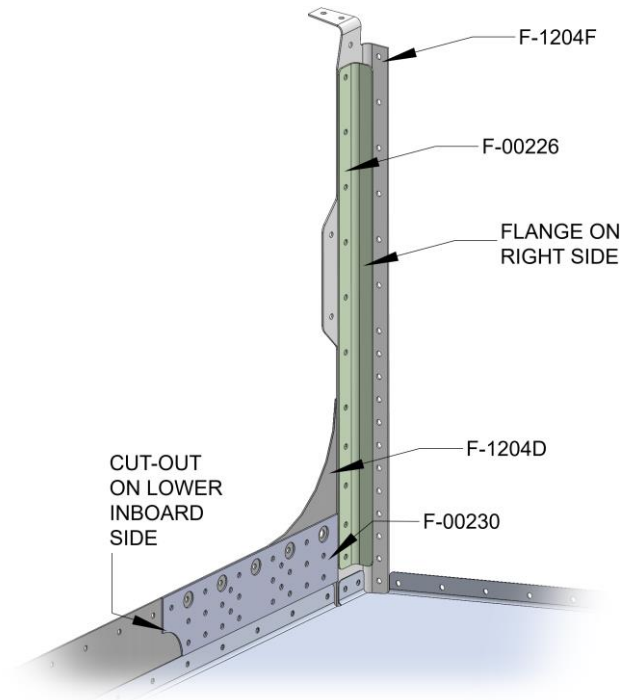

FIGURE 7: F-00226 REINFORCEMENT ANGLE - INSTALLATION, RIGHT SIDE
Step 32: Repeat steps 25 through 31 on the right side of the aircraft. On the right side of the aircraft, the flange of the F-00226 Reinforcement Angle is on the outboard (right) side. Refer to Figure 7.